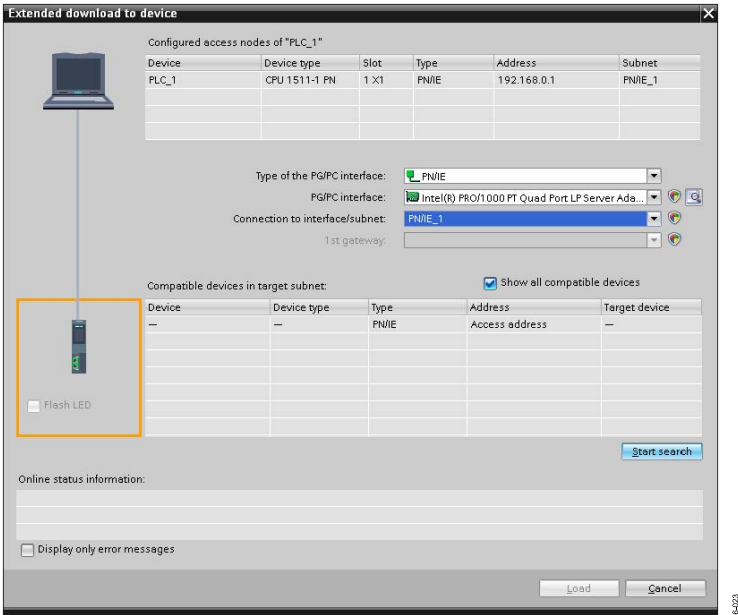

Figure 86. PLC Load Selection
3. Select the appropriate PLC in this window and click **Load** (see Figure 86).